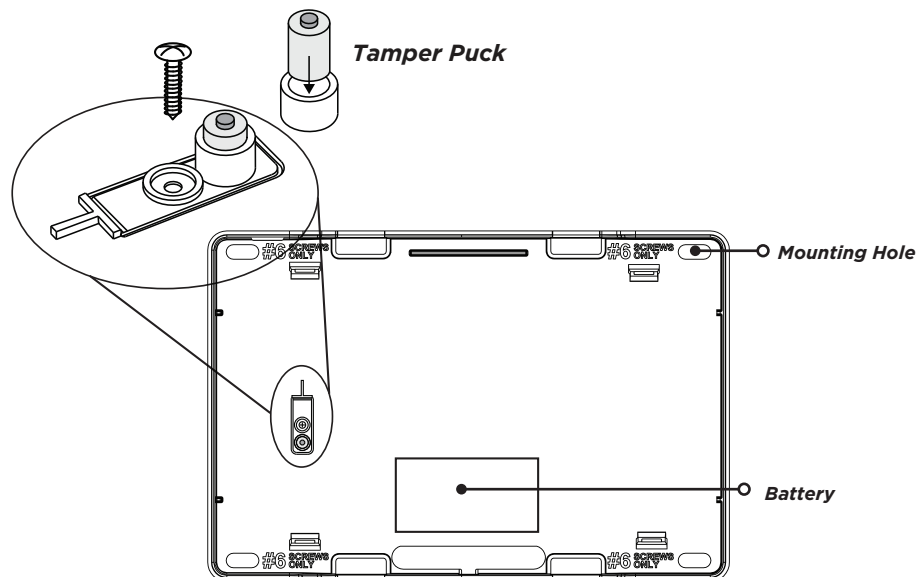

Figure 2: Inside of the 1100DINT Housing
2. Mount the receiver on a flat surface using the supplied screws. See Figure 2 for mounting hole locations.